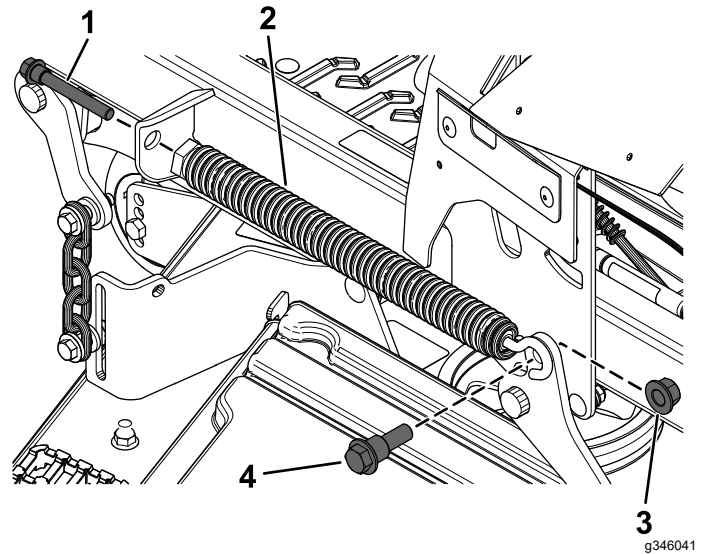

Figure 6
1. Remove the spring bolt securing the front of the deck-lift spring (Figure 6).
2. Remove the shoulder bolt and locknut (1/2 inch) securing the rear of the deck-lift spring (Figure 6).
3. Remove the deck-lift spring (Figure 6).